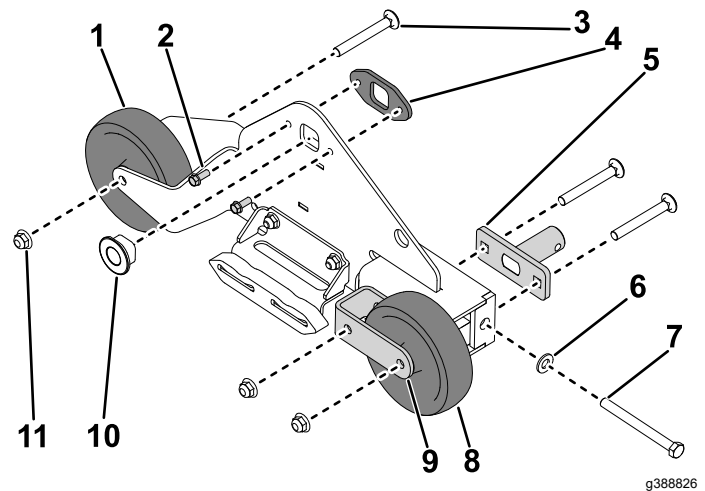

Figure 2
1. Remove the carriage bolt (3/8 x 3 inch), tensioner bushing, and locknut (3/8 inch) securing the left bogey wheel to the track support (Figure 2). Remove the wheel.
2. Remove the carriage bolt (3/8 x 3 inch), tensioner bushing, and locknut (3/8 inch) securing right bogey wheel to the bogey yoke and track support (Figure 2). Remove the wheel.
3. Remove the carriage bolt (3/8 x 3 inch) and locknut (3/8 inch) securing the bogey yoke to the track support. Remove the bogey yoke from the track support (Figure 2).
4. Remove the axle bushing (Figure 2).
5. Remove the 2 screws (1/4 x 5/8 inch) securing the axle bushing support to the track support. Remove the axle bushing support (Figure 2).
6. Remove the screw (3/8 x 4 inch), tensioner bushing, and washer (3/8 inch) securing the tensioner to the bogey wheel mount (Figure 2). Remove the tensioner.